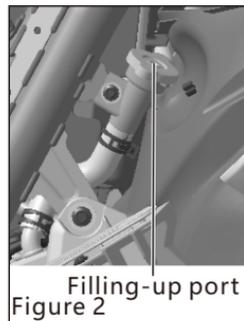

Figure 2
- Open the tank cap (Figure 2) of heat radiator and fill up with the coolant.